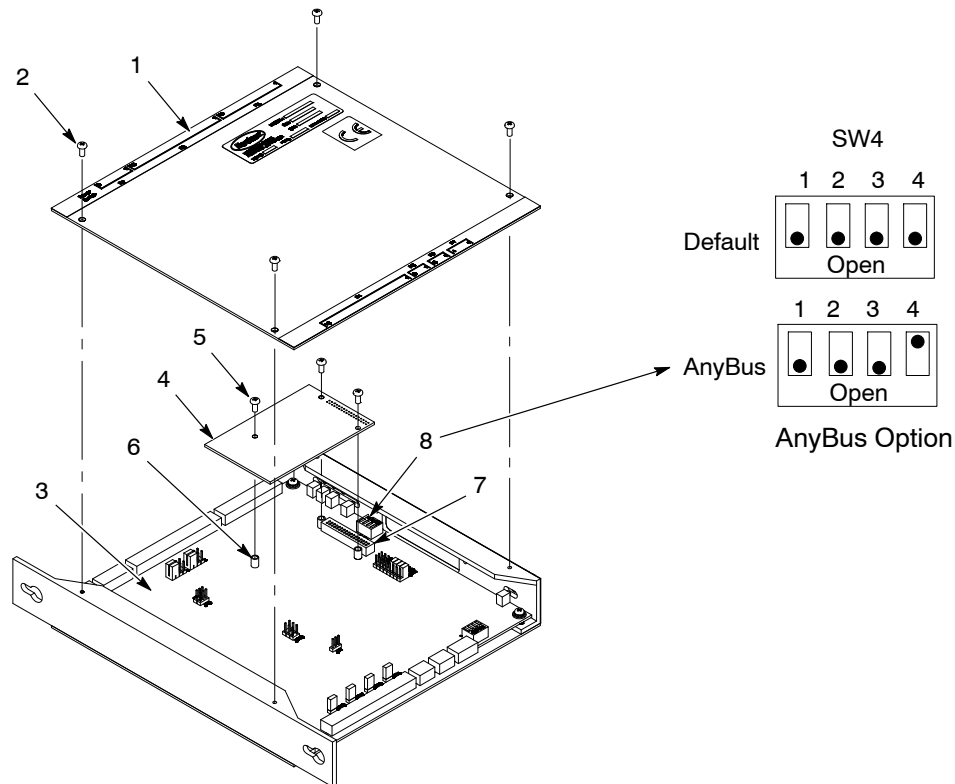

Figure 3 Anybus Module Installation and Jumper Setting
Follow this procedure to install the AnyBus-S module on the PRx II board. See Figure 3.
**NOTE:** If necessary, remove the PRx II module cover as shown in Figure 3 to set jumpers on the PRx II board for other options.